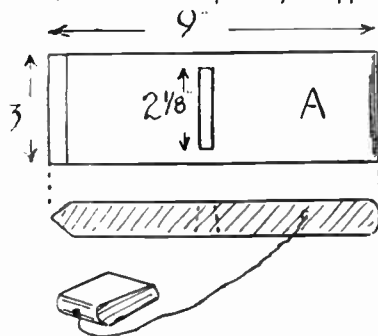

Fig. 1—The tools for the job
For this job, a tool is necessary for stretching the webbing. One can be bought, of course, but a good one can easily be made of hardwood, to the pattern shown at (A) Fig. 1. The slot in it is cut wedge-shaped, and a hardwood wedge to fit it is made, and attached to